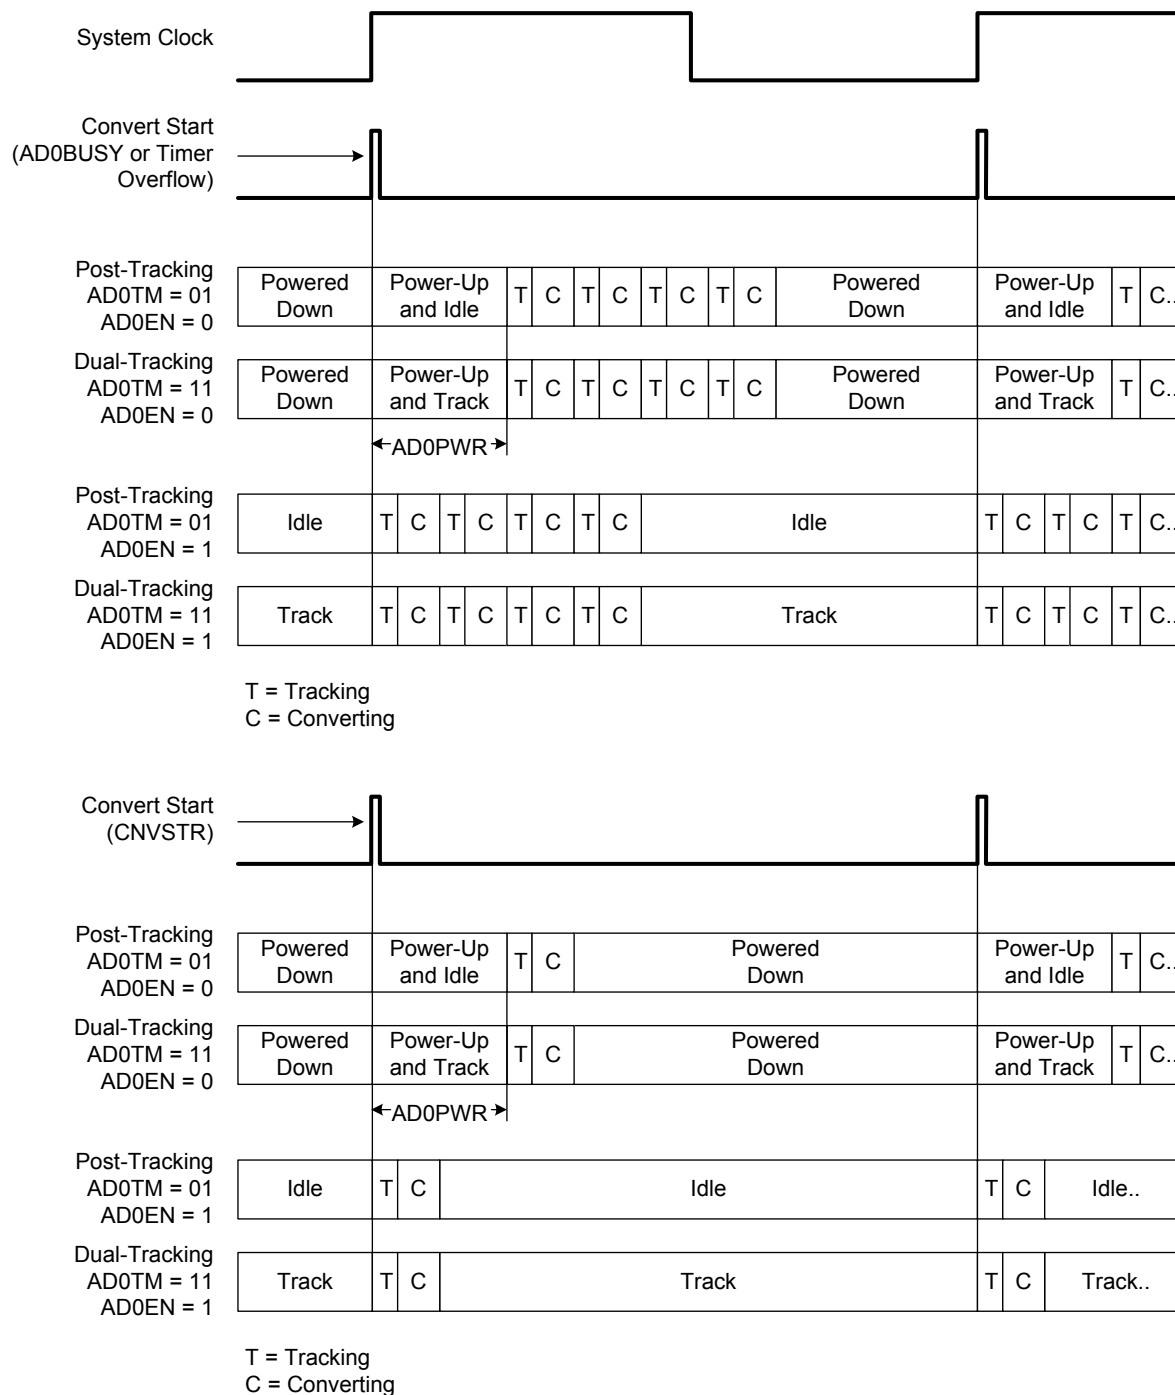

Figure 5.3. Burst Mode Tracking Example with Repeat Count Set to 4
Burst Mode is enabled by setting BURSTEN to logic 1. When in Burst Mode, AD0EN controls the ADC0 idle power state (i.e., the state ADC0 enters when not tracking or performing conversions). If AD0EN is set to logic 0, ADC0 is powered down after each burst. If AD0EN is set to logic 1, ADC0 remains enabled after each burst. On each convert start signal, ADC0 is awakened from its Idle Power State. If ADC0 is powered down, it will automatically power up and wait the programmable Power-Up Time controlled by the AD0PWR bits. Otherwise, ADC0 will start tracking and converting immediately. Figure 5.3 shows an example of Burst Mode Operation with a slow system clock and a repeat count of 4.
- A rising edge of external start-of-conversion (CNVSTR) will cause only one ADC conversion in Burst Mode, regardless of the value of the Repeat Count field. The end-of-conversion interrupt will occur after the number of conversions specified in Repeat Count have completed. In other words, if Repeat Count is set to 4, four pulses on CNVSTR will cause an ADC end-of-conversion interrupt. Refer to the bottom portion of Figure 5.3, “Burst Mode Tracking Example with Repeat Count Set to 4,” on page 83 for an example.